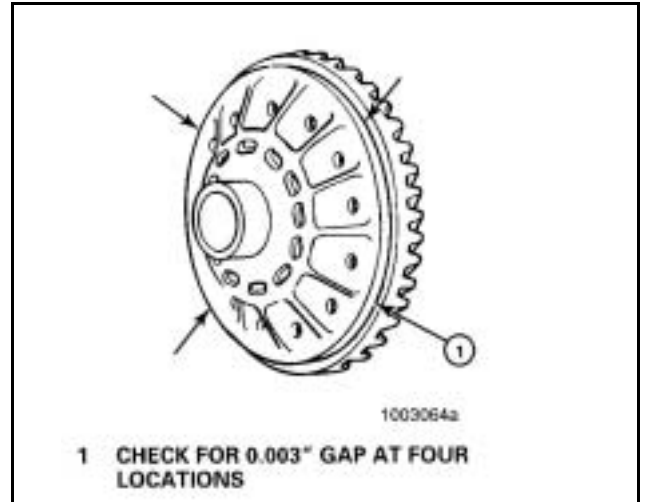

Figure 86
- a. After the bolts are installed, check for gaps between the back surface of the ring gear and the case flange. Use an 0.08 mm (0.003 inch) feeler gauge and check at four points around the assembly. **Figure 86.**